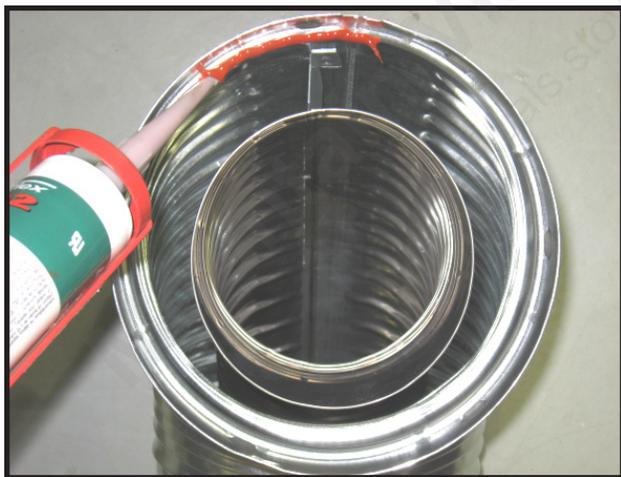

Figure 1. High Temperature Silicone Sealant
- Apply a bead of silicone sealant inside the female outer pipe joint prior to joining sections. See Figure 1.